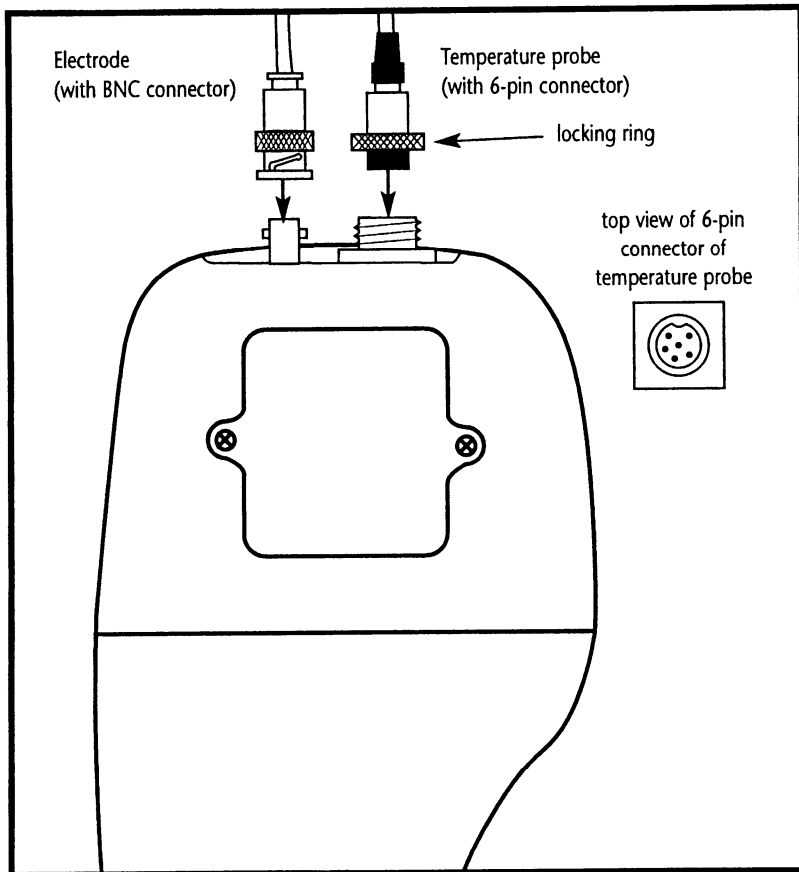

Figure 4 - Connection for pH Electrode (BNC) and Temperature probe (6-pin connector)
1. Line up the notch and 6 pins on the probe connector with the holes in the connector located on the top of the meter. Push down and screw the metal sleeve to lock the probe connector into place. See Figure 4.